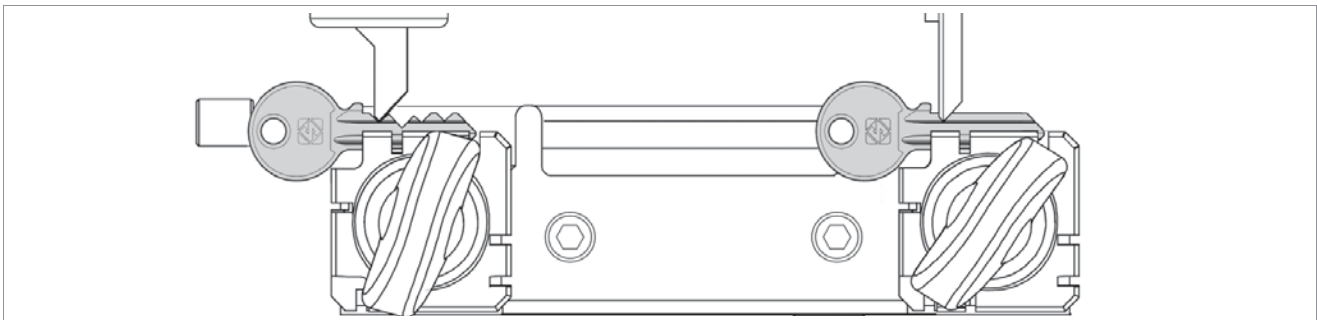

Fig. 28
- 1) Take the carriage up to the tracer point/cutter and keep the tracer point on the cut (Fig. 28) (use carriage unlock button for 040 and 044 models).
- 3) Turn off the motor switch (K) before removing the duplicated key.
- 5) Turn on the motor switch (K) and smooth off the key edges by means of the brush (S).